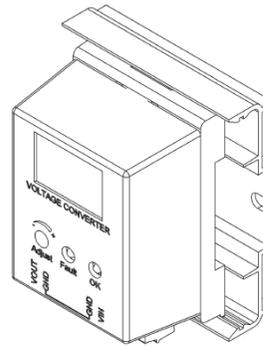

Figure 5: EZ-Mount in Snaptrack
**Snap Track Mounting, Fig 5**